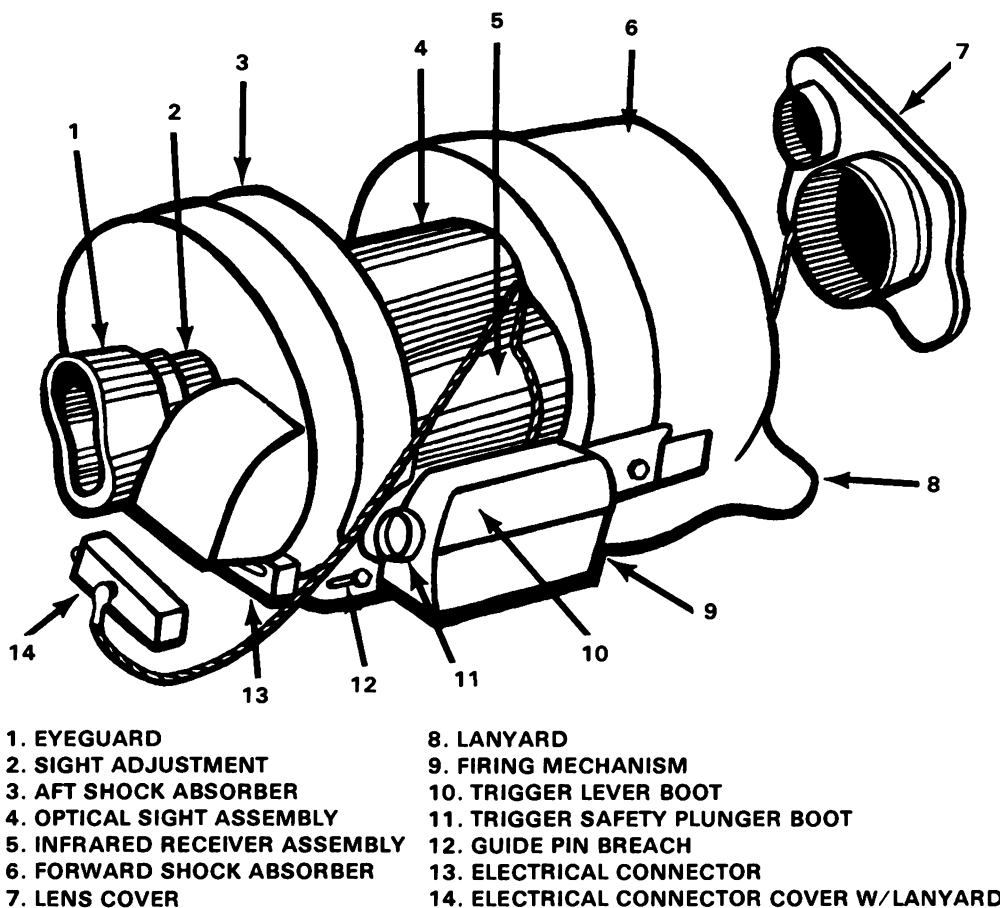

Figure 3.
2. Preoperational Inspection of the Tracker (figure 3).
f. Inspect the eyeguard for cracks, other visible damage, and a secure fit which allows rotation (figure 3). The eyeguard should rotate independent of the focus ring.